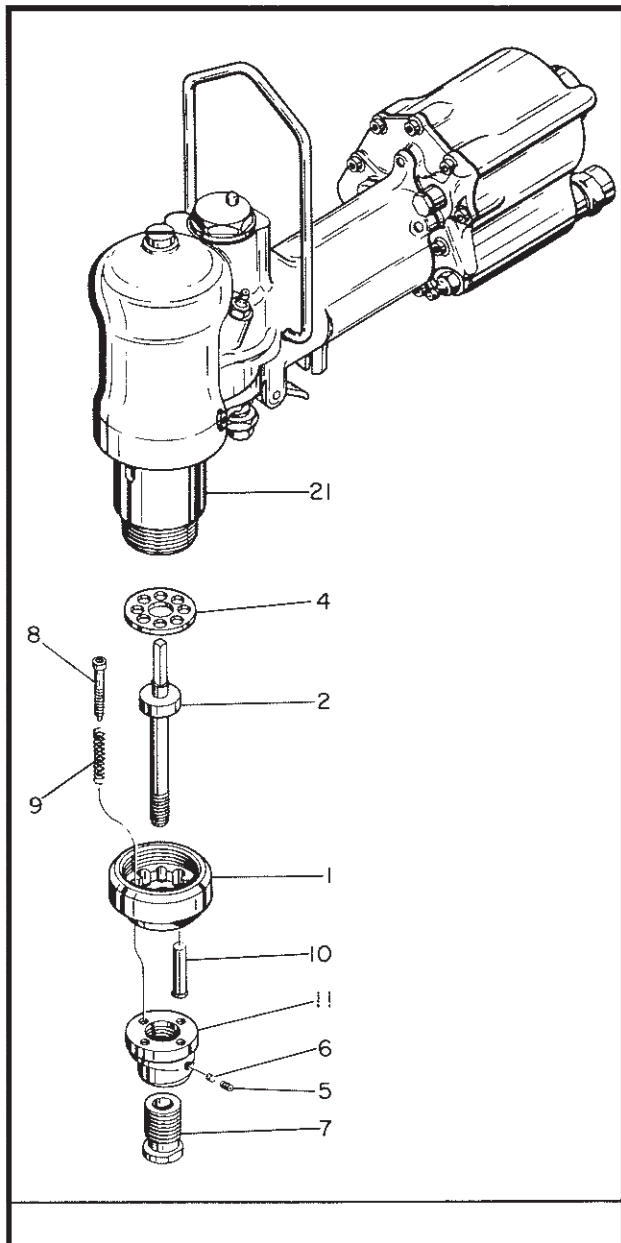

Figure 5. Nose Piece Assembly
1. Refer to Table II, Section V, and select the correct nose piece assembly (see figure 5) and pull-up stud for the desired Rivnut size. Check pull-up stud holder if two-piece pull-up stud is used.
2. Assemble the stud thrust washer (4) and retaining washer (3) over the square end of pull-up stud or stud holder as in figure 5. Install pull-up stud assembly in nose piece assembly and screw nose piece firmly on handle sleeve (21).
1. One-piece. Unscrew the nose piece assembly (see figure 5). Work the pull-up stud assembly free of the push pins and springs. Remove the thrust washer retaining washer (3) and thrust washer (4). Discard damaged pull-up stud. Install thrust washer (4) and retaining washer (3) over square end of pull-up stud. Install in nose piece assembly and screw nose piece firmly on handle sleeve (21).
2. Two-piece. Unscrew the nose piece assembly (see figure 5). Work the pull-up stud assembly free of the push pins and springs. Loosen the pull-up holder set screws and remove damaged pull-up stud. It is not necessary to disturb the thrust washer in the two-piece assembly. Insert new pull-up stud
The pull-up stud thrust washer (4, figure 5) and its retaining washer (3) must always be installed over the square end of the pull-up stud (2) and pushed down against the shoulder. Failure to observe this order of assembly (see figure 5) may cause damage to the air motor!
#### 5. Nose Piece Assembly. (See figure 5.)
Observe the order of assembly shown in figure 5; first the thrust washer (4), then the retaining washer (3) over the square end of the pull-up stud. Failure to assemble in order could cause an air motor failure.